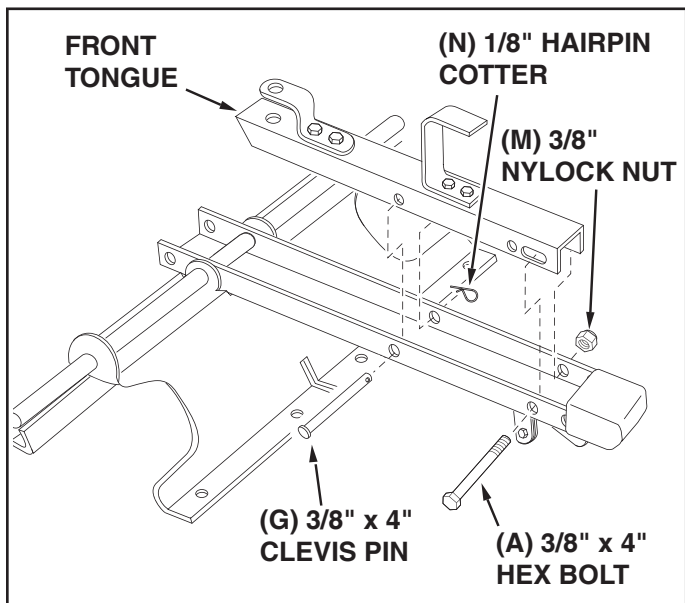
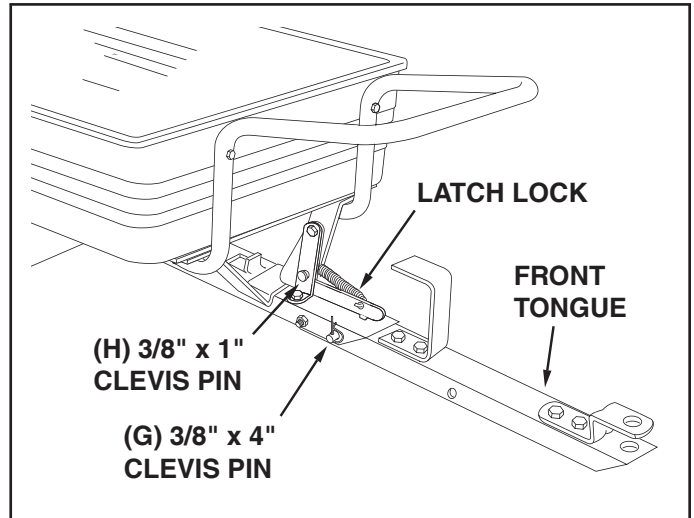

FIGURE 5
FIGURE 10
- Place the front tongue inside the rear tongue as shown in figure 5. Fasten the tongues together using a 3/8" x 4" hex bolt (A) and a 3/8" nylock nut (M). **Tighten,** leaving the nut just loose enough that the tongues can pivot freely. See figure 5.
- Insert the 3/8" x 4" clevis pin (G) through the tongues and secure with a 1/8" hairpin cotter (N), as shown in figure 5.
1. To convert the cart for towing, remove the plastic cap from the tongue. Remove the 4" long clevis pin and hairpin cotter which secure the front tongue in storage position underneath the rear tongue. Pivot the front tongue outward and secure it in the towing position using the same clevis pin and hairpin cotter. Refer to figure 10 on page 7.
1. To convert the cart for push operation, remove the 4" long clevis pin and hair cotter pin which secure the tongue in the towing position. (See figure 10 on page 7.) Pivot the front tongue into the storage position underneath the rear tongue and secure it using the 4" long clevis pin and hair cotter pin. (Refer to figure 5 on page 6.) Place the plastic cap over the exposed end of the tongue.